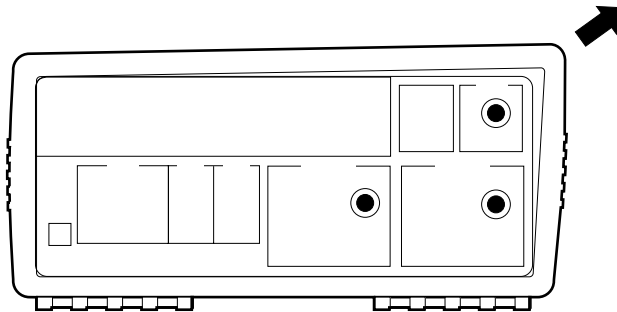

Figure 3-4. Front Rubber Bumper Removal
**3 Remove the front rubber bumper (part of MP2), stretch a corner and then slide it off as shown in Figure 3-4.**